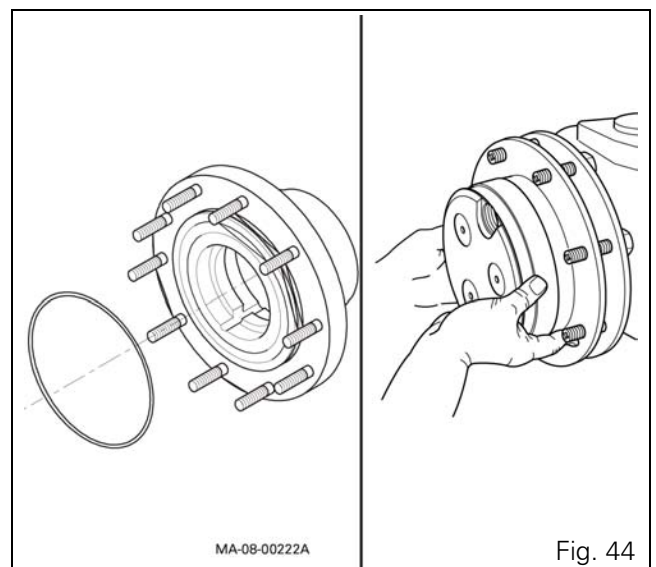

Fig. 44
- 48.** Fit a new "O" ring on the wheel hub (Fig. 44).